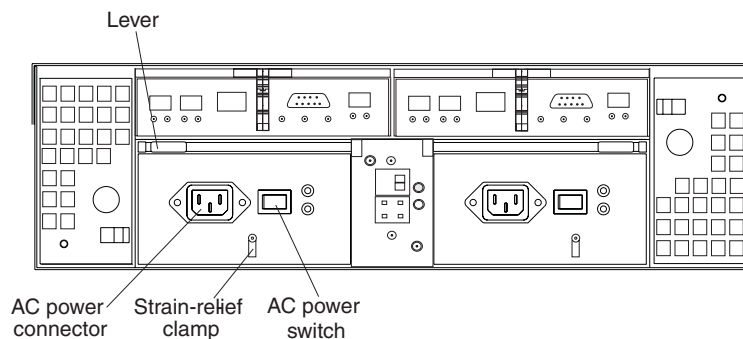

Figure 62. Connecting the power cord to the AC power connector
5. Connect the power cord to the AC power connector. See Figure 62.